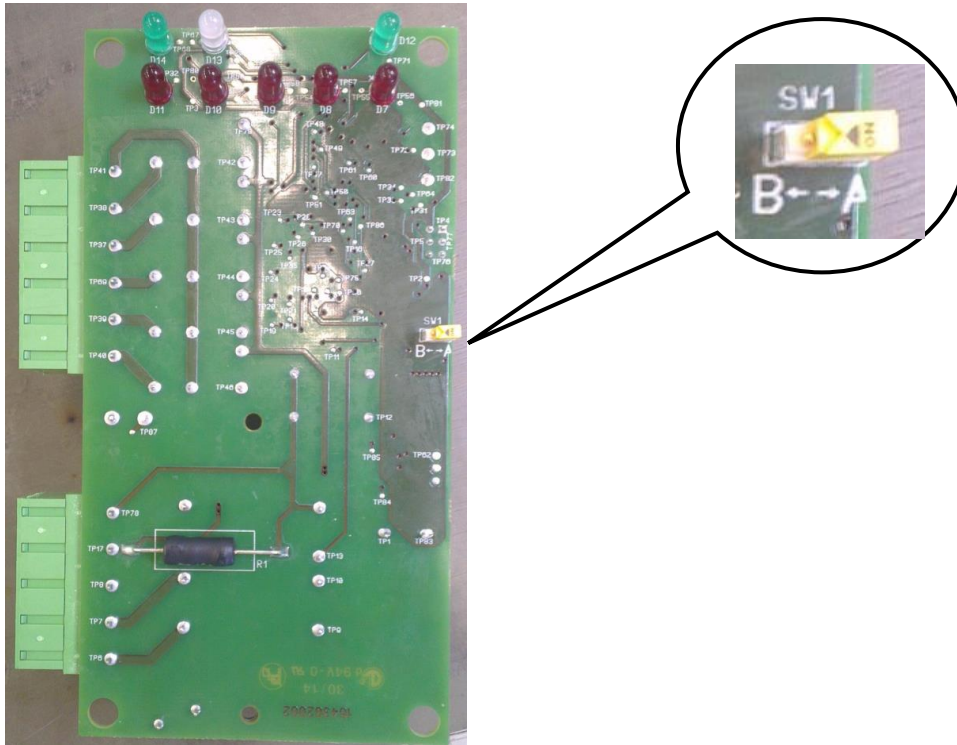

Figure 4 – Switch SW1 for Automatic Battery Acquisition
- **SW1 switch position reading** (see Figure 4 below) for self-acquisition to check the request for a new battery acquisition made by the Customer (Chap. 3.2). Switch SW1 is positioned on the board inside the cabinet (Figure 4).
2. **Change** the position of **SW1** (see Figure 4). If it was previously in position A, move it to position B and vice versa. At the end, leave the switch in the position it was left in (without having to change its position at the end of the operation)
The Figure 4 below illustrates the location of the **SW1** switch on the board.